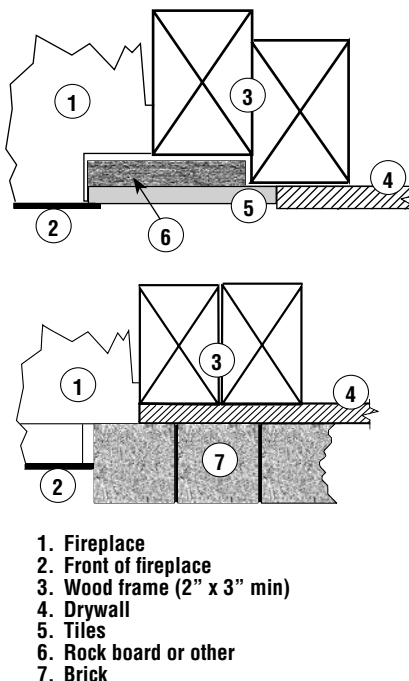

Figure 18
2. Non-combustible materials such as brick, stone or ceramic tile may project in front of and onto the fireplace facing (Figure 18).